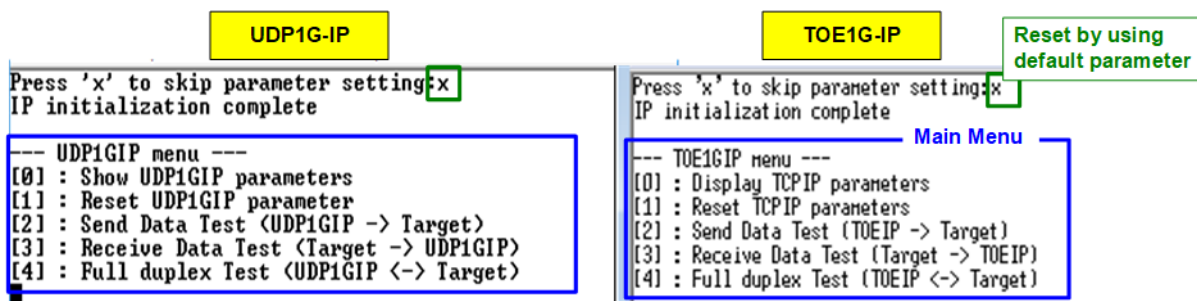

Figure 1-9 Initialization complete
- c. User enters 'x' to skip parameter setting for using default parameters to begin system initialization, as shown in Figure 1-9. If user enters other keys, the menu for changing parameter is displayed, similar to “Reset TCPIP/UDPIP parameters” menu. The example when running the main menu is described in “dg_toe1gip_cpu_instruction” or “dg_udp1gip_cpu_instruction document.